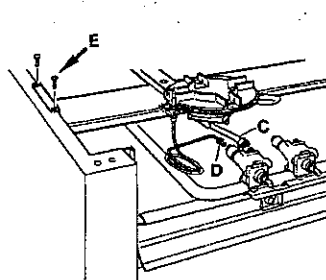

fig. 36
- 1) unscrew the lock nuts "C" and "D" and screws "E" (Fig. 36)